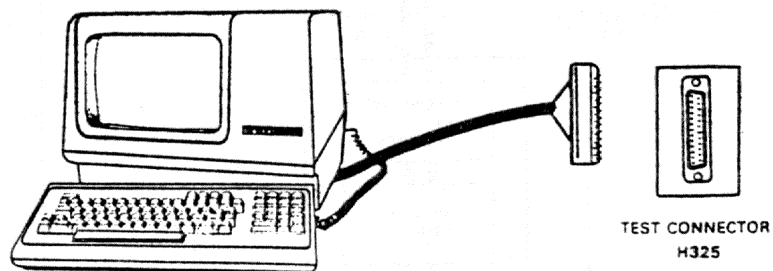

Figure 4-2 Local Terminal Test
4.2 TEST AREA 1 -- LOCAL TERMINAL TEST (FIGURE 4-2)